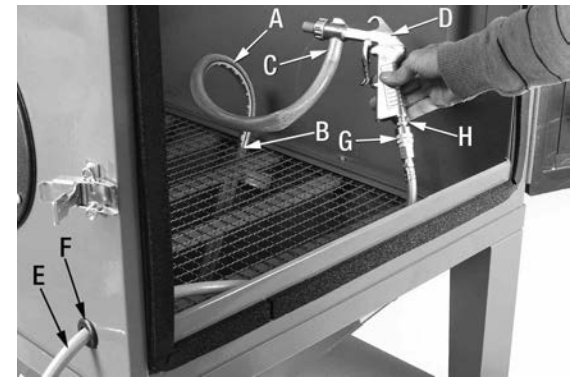

FIGURE 10
- 9) Slide the large media hose (A) Fig.10 onto the media collecting pipe (B). Connect the other end of the large media hose to the large opening (C) of the sandblast gun (D).
- 10) Connect an air hose (E) Fig.10 (not included) from your compressor (compressor capable of maintaining 15-25 CFM at 40-80 PSI) and insert the air hose into the small opening (F) at the front of the cabinet, as shown. Install a quick connect fitting (G) (not supplied) at the end of the air hose.
- 11) Connect an 1/4" NPT air inlet (H) Fig.10 (not included) to the sandblast gun (D). Connect the 1/4" NPT air inlet to the quick connect fitting.